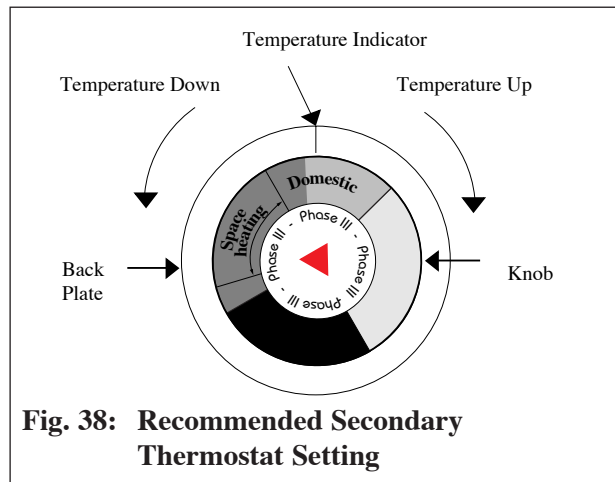

Fig. 38: Recommended Secondary Thermostat Setting
Set the thermostat knob as shown in Fig. 38 page 56.
Studies have indicated that dangerous bacteria can form in the potable water distribution system if certain minimum water temperatures are not maintained. For prevention of this, it is recommended that the Secondary Thermostat be set as shown in Figure 38 and maintained at 130°F to 140°F.
- Set the thermostat knob as shown in Figure 38.
- Primary and Secondary Thermostat properly set as shown in Figure 38 and 39 page 56.